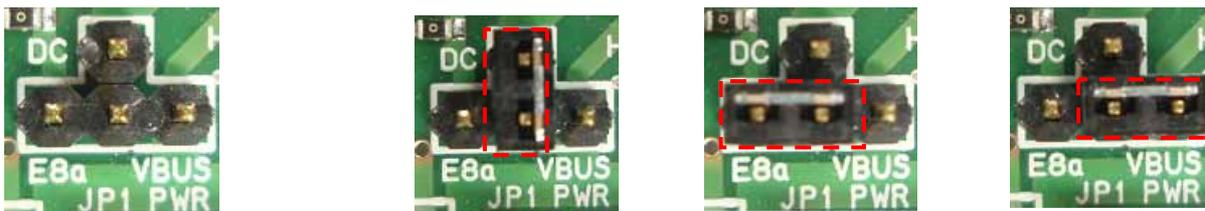

Figure 3 JP1 Main power supply switch “DC” setting “E8a” setting “VBUS” setting
JP1 (Figure 3) selects the main power supply source for components that can run on either 3.3V or 5V, such as the MCU, user LED, user switch, and RS232C transceiver. The supply source can be selected from the following: (1) stabilized power supply (DC), (2) E8a supply source (E8a), and (3) VBUS (power source from USB Host).